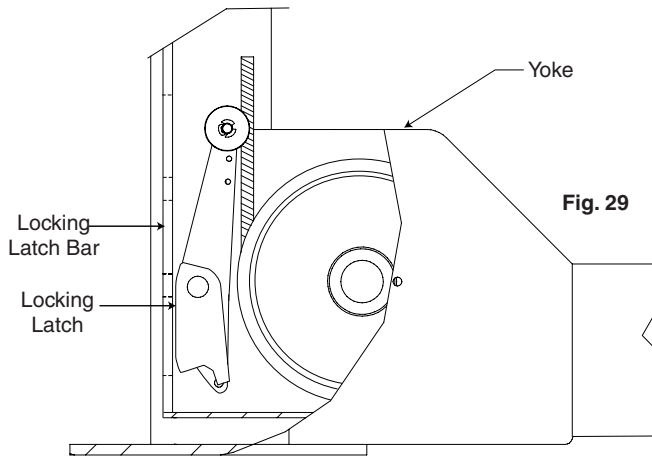

Fig. 29
- K. Actuate air valve and check latch operation on all four corners. The locking latches should pull in beyond yoke ends to clear the latch bars located in all four columns, Fig. 29.